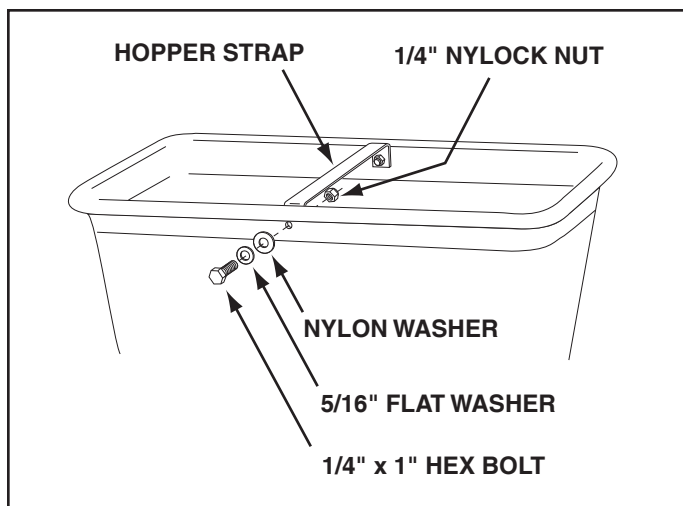

FIGURE 5
12. Attach the hopper strap to the front and rear of the hopper using two 1/4" x 1" hex bolts, 5/16" flat washers, nylon washers and 1/4" nylock nuts. See figure 5.